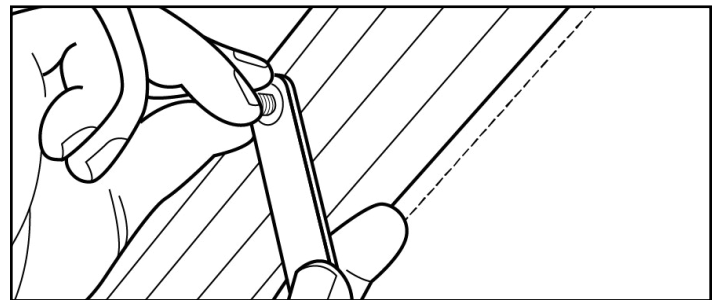

Fig.42
8. Remove the bolt and threaded insert tool (Fig.42). The roll tube will now have a threaded hole.